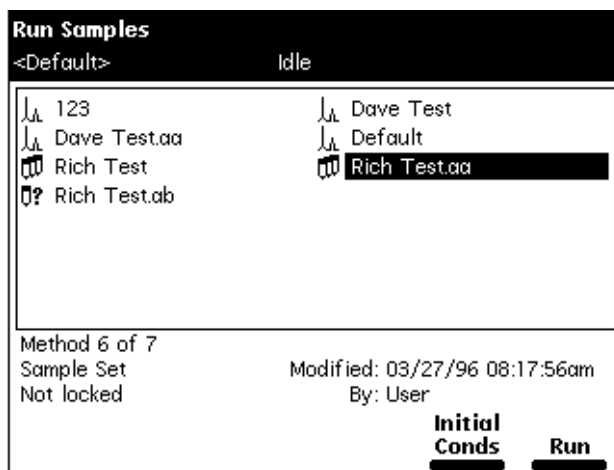

Figure 5-3 Run Samples Screen
1. Press the **Run Samples** screen key in the Main screen. The Run Samples screen appears (Figure 5-3), listing all available separation methods, sample sets, and sample templates. Table 5-1 describes the icons used in the Run Samples screen.
1. Press the **Run Samples** screen key in the Main screen. The Run Samples screen appears (see Figure 5-3).
2. Press the **Run Samples** screen key in the Main screen. The Run Samples screen appears (Figure 5-3).